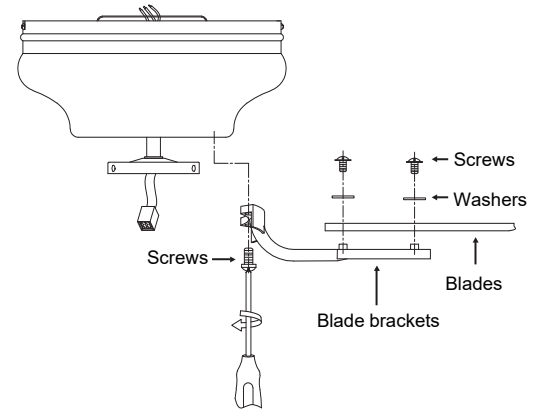

Fig. 10
Step 1. Attach the blade to the blade bracket using the screws and washers as shown in **Figure 10**. Start screw into bracket. Repeat for the two remaining screws.